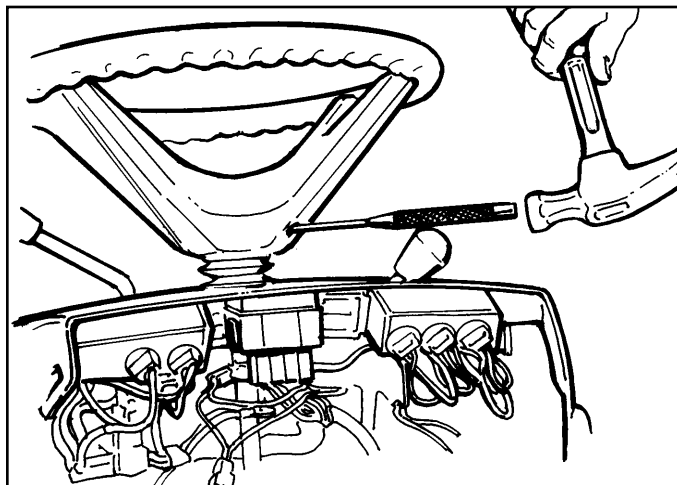

Figure A-20. Remove Steering Wheel Spring Pin
- 1B. Later-model steering wheels are attached to the steering shaft assembly with a long spring pin. Use a pin punch and hammer to drive the spring pin out of the steering wheel and steering shaft assembly (Figure A-20).